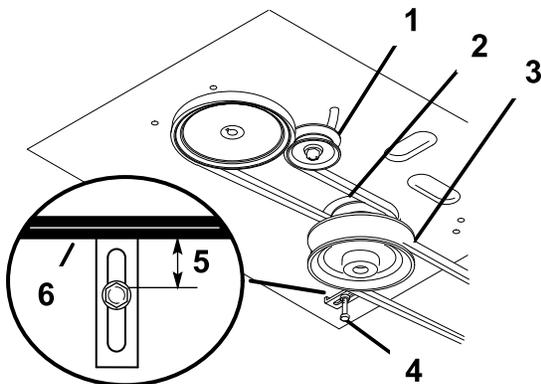

Figure 49
- Check the belt guide under the engine frame for proper adjustment (Figure 49).
Note: The distance between the belt guide and the mower belt should be $3/4$ inch (19 mm) when you engage the mower belt (Figure 49). Adjust the mower belt as necessary. The disengaged belt should not drag or fall off the pulley when the guides and belt tension are properly adjusted.